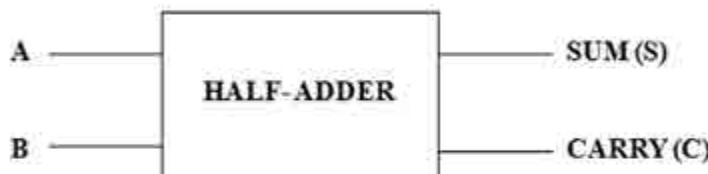

Fig 10.30 Logic Symbol of Half Adder
The Figure.10.30 shows the logic symbol of a half-adder, the two inputs are designated as A and B and the two outputs are designated as sum (S) and carry (C). The half-adder performs binary addition operation for the two binary inputs as shown in the table 10.17.